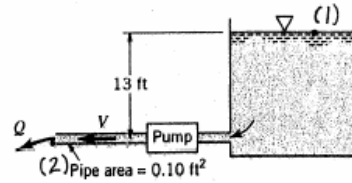

FIGURE P5.115
5.115 Water is pumped from the large tank shown in Fig. P5.115. The head loss is known to be equal to $4V^2/2g$ and the pump head is $h_p = 20 - 4Q^2$, where h_p is in ft when Q is in ft^3/s . Determine the flowrate.